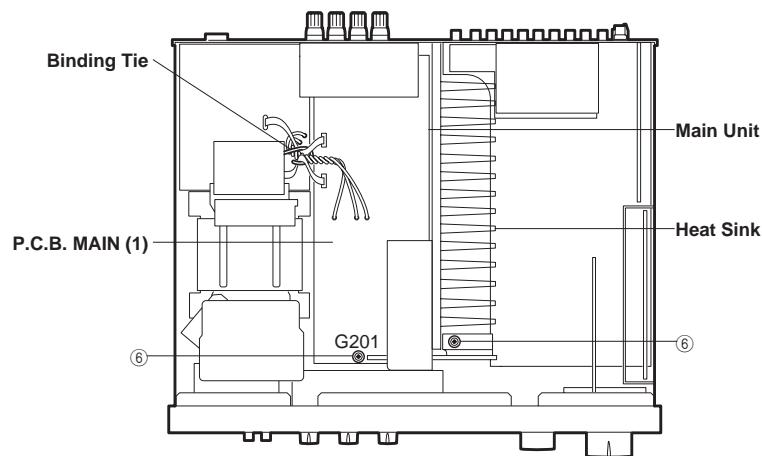

Fig.3
d. Remove the Binding Tie fixing P.C.B. MAIN (1)'s wiring in Fig. 3.
**Note)** When the assembling , P.C.B. MAIN (1)'s wiring
e. Remove 2 screws (⑥) fixing the Main Unit in Fig. 3.